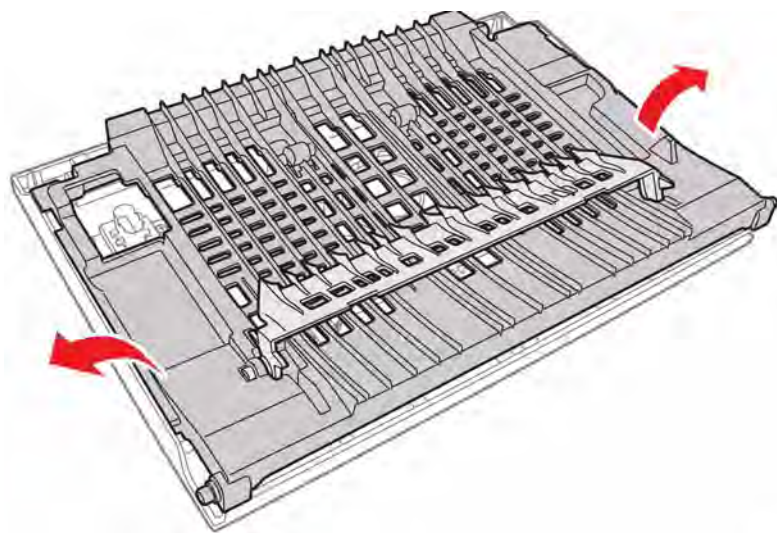

Figure 1 Remove the duplex chute
3. Flex the duplex chute to release the bosses from the door, Figure 1.